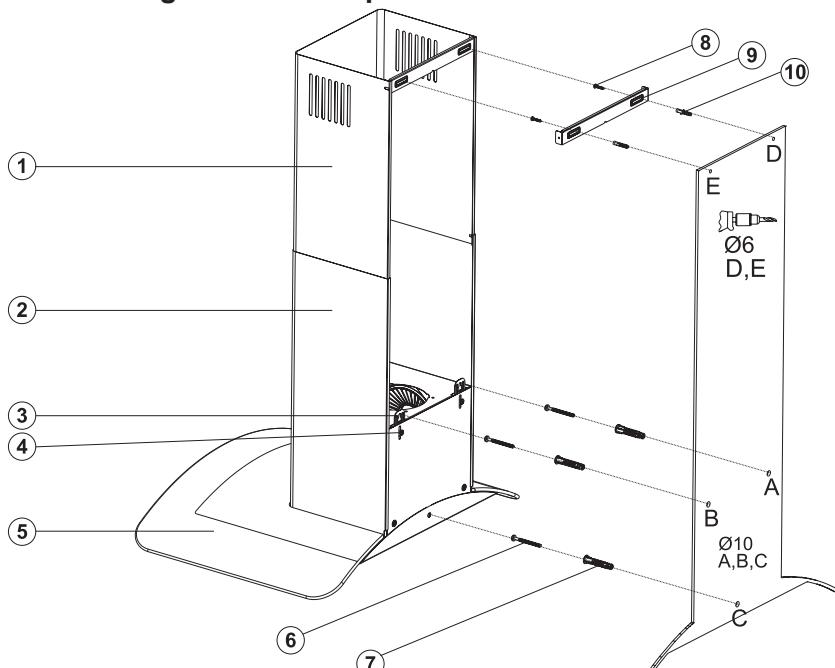

Fig. 10: ASSEMBLY INSTALLATION AND COMPONENTS
- Loosening the product hanging plate fixing screw (4) pull the hanging plates (3) upwards, and fix the hanging plated by re-tightening the fixing screw. Fig 10
specified height (See the minimum and maximum distances intended for the worktop, in the assembly pattern). Perforate points A, B and C.(Fig. 10)
- Insert Ø10mm dowels (7) into the holes drilled as A, B, C and D, and screw down the screws at the points A + B so that 5mm space remains between the screw head and the wall. (Fig. 10)
The cooker hood is set in the midst, and then the flue connecting plate (3) is directly affixed to the wall, under the cover or points E and F are marked after performing a measurement. (Page 16 Fig.10)
Drill points E and F with Ø6mm drill bit, and insert Ø6mm and plastic dowels. Insert the flue connection plate with 3.9x22 screws (Page 16 Fig.10)